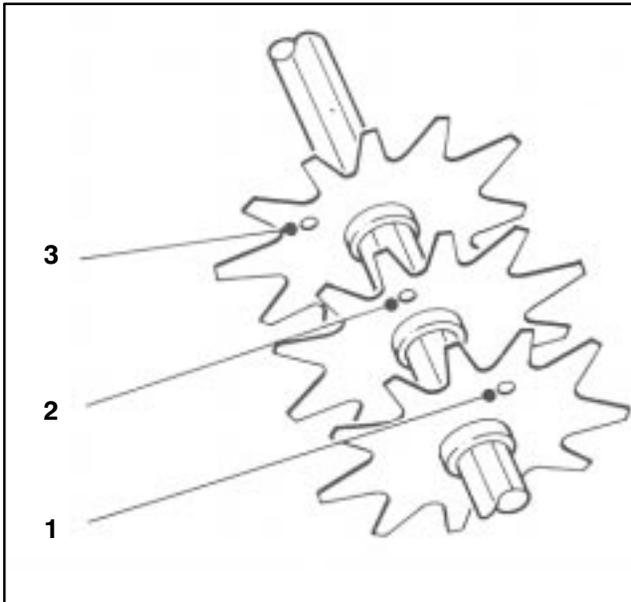

Figure 13
4. Install the next blade counter–clockwise so the index reference hole is not aligned with the first blade hole by one hex of the shaft (Fig. 13). Continue to install spacers and blades in this manner until the full complement of blades ave been installed. When properly assembled, the blades will be staggered in such a manner to give a helix appearance.